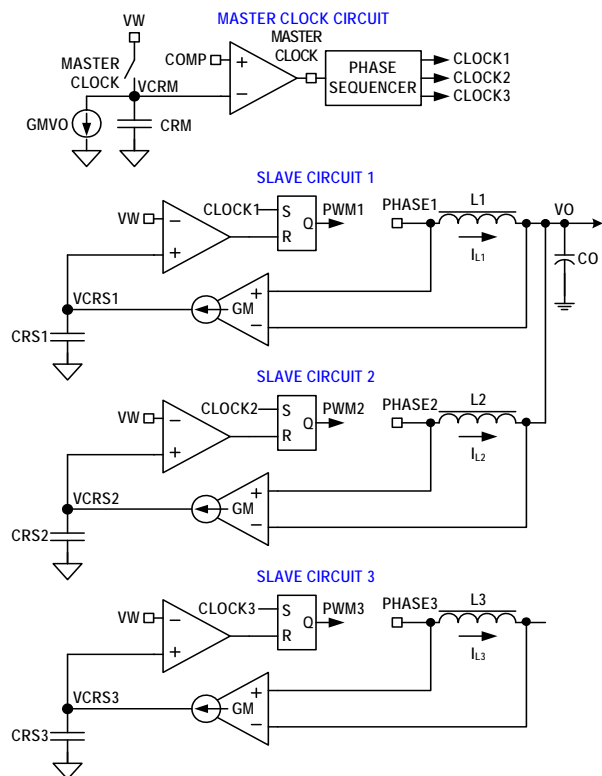
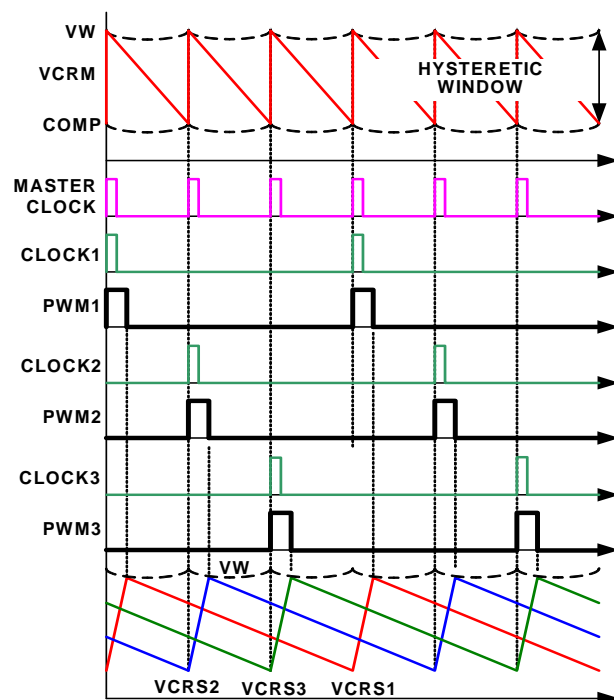

FIGURE 7. R³™ MODULATOR CIRCUIT
FIGURE 8. R³™ MODULATOR OPERATION PRINCIPLES IN STEADY STATE
The ISL62773 is a multiphase regulator implementing two voltage regulators, CORE VR and Northbridge (NB) VR, on one chip controlled by AMD's™ SVI2™ protocol. The CORE VR can be programmed for 1-, 2- or 3-phase operation. The Northbridge VR can be configured for 1- or 2-phase operation. Both regulators use the Intersil patented R³™ (Robust Ripple Regulator) modulator. The R³™ modulator combines the best features of fixed frequency PWM and hysteretic PWM while eliminating many of their shortcomings. Figure 7 conceptually shows the multiphase R³™ modulator circuit, and Figure 8 shows the operation principles.